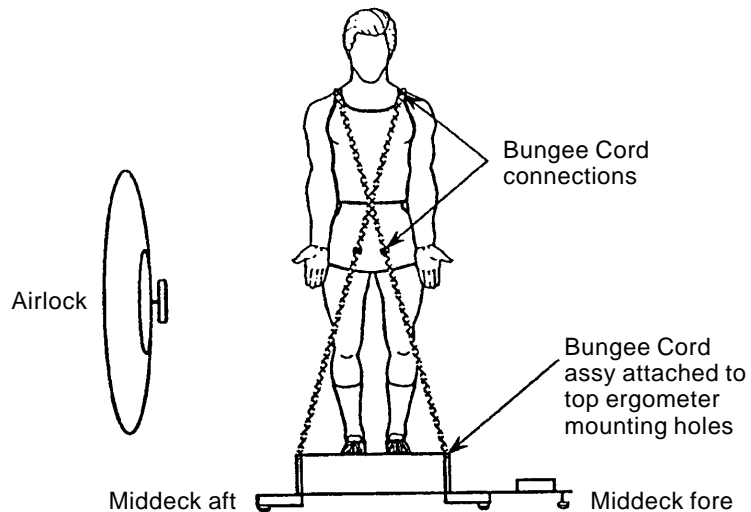

Figure 12-3.- Alternate exercise bungee attachments – front view (facing stbd).
4. Attach Bungees to opposite corners of Ergometer frame crossing Bungees over shoulders (figs 12-3, 12-4)